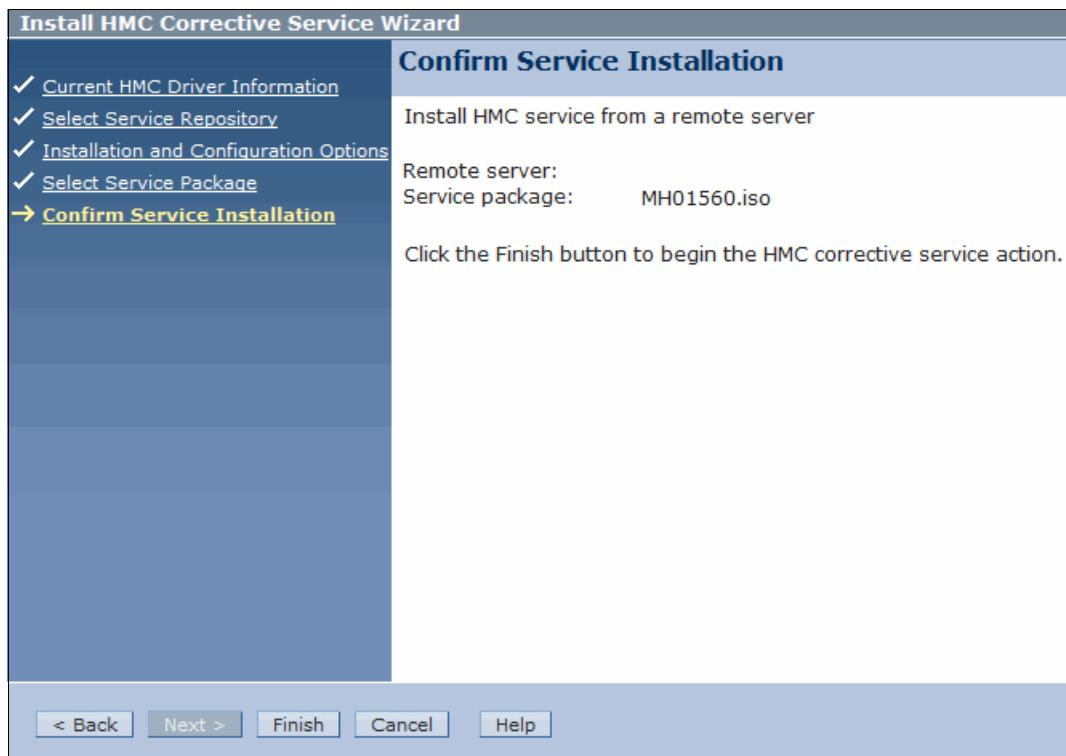

Figure 3-120 Confirm Service Installation
7. Click **Finish** in the Confirm Service Installation panel (Figure 3-120).